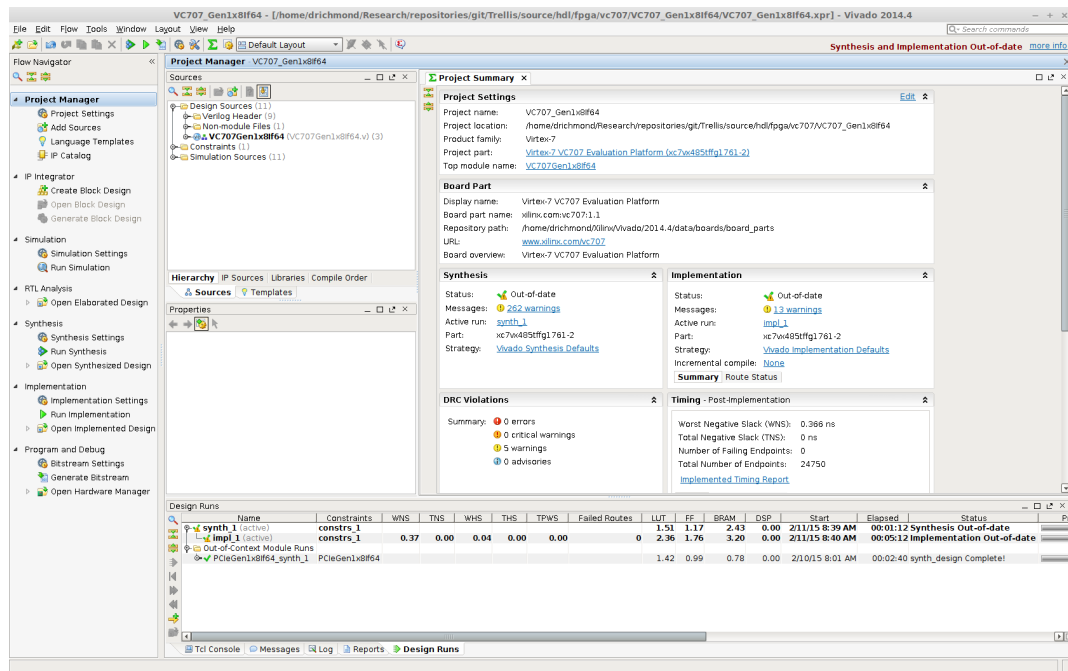
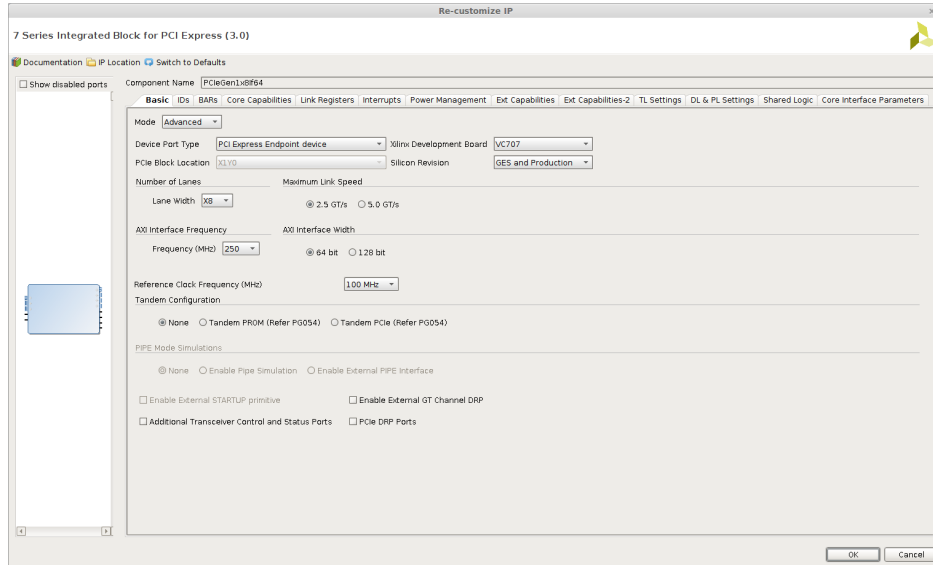

Figure 4.2: Project Splash Screen for 7Series Integrated Block for PCI Express Projects
Figure 4.4: Basic settings tab.
3. In the RIFFA 2.2.0 distribution, open *RIFFA 2.2.0/source/fpga/xilinx/vc707/* or *RIFFA 2.2.0/source/fpga/zc706* and choose from one of the existing example design directories for your board. In the example design directory, locate the *prj* folder and open it. Select the *.xpr* file and click open. This will open the example project, as shown in Figure 4.2.
- To recompile the example design, click the generate bitstream button in the top left corner as shown in Figure 4.2.
To generate the PCIe IP select the 7 Series Integrated Block for PCI Express after selecting the IP Catalog shown in Figure 4.2. This will open the IP Customization window as shown in Figure 4.4
In Figure 4.4 , we have set the **Xilinx Development Board** to **VC707**, selected the PCIe Gen1 rate **2.5 GT/s**, and a **Lane Width** of **8** (*C\_NUM\_LANES* = 8). We have chosen to set the **AXI Interface Width** to **64-bits** (*C\_PCI\_DATA\_WIDTH* = 64). The choice of Link Rate, Lanes, and Interface Width will allow different AXI Interface Frequencies to be selected. The RIFFA core will run at this clock frequency, but the user logic can run at whatever frequency it desires.
Optional: Set the Component Name of the PCI Express block, and the IP Location. In our example projects, we use the name template PCIeGen**W**x**Y**If**Z** where **W** is the PCI Express Version (**Link Speed** in Figure 4.4), **Y** is the lane width, and **Z** is the AXI interface width. The IP location is the *ip* directory in the example project.